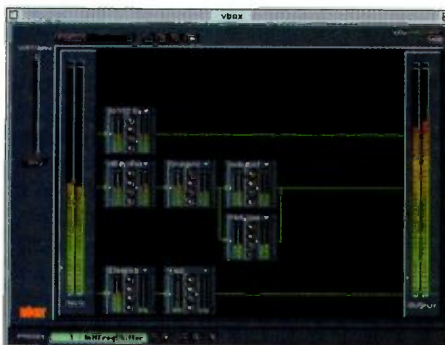

FIGURE 1: VBox from BIAS.
**Parallel Effects.** If you have TC Works’ Spark, rejoice: its FX Machine module is a matrix with a bunch of slots into which you can place VST-compatible effects in series, parallel, or series/parallel. This works with any VST-compatible program, not just Spark, because the FX Machine itself is a VST-compatible effect. BIAS makes a similar plug-in called VBox (fig. 1) that works within other programs, or as a stand-alone processor; both programs are Mac-only.